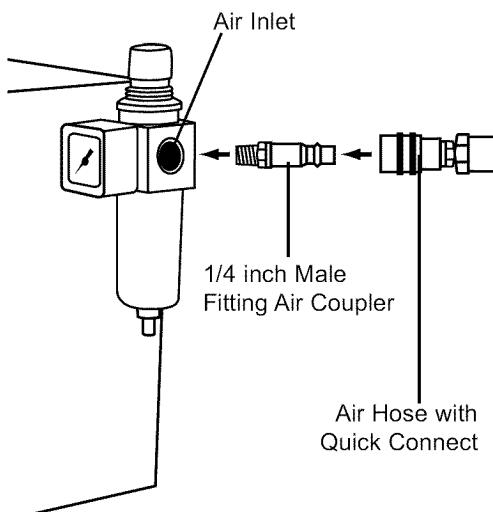

Figure 5. Connecting the Air Supply
3. Attach air hose (with quick connect coupler) to 1/4 inch male air coupler. Make sure air hose is fully seated on coupler before letting go. (See Figure 5)